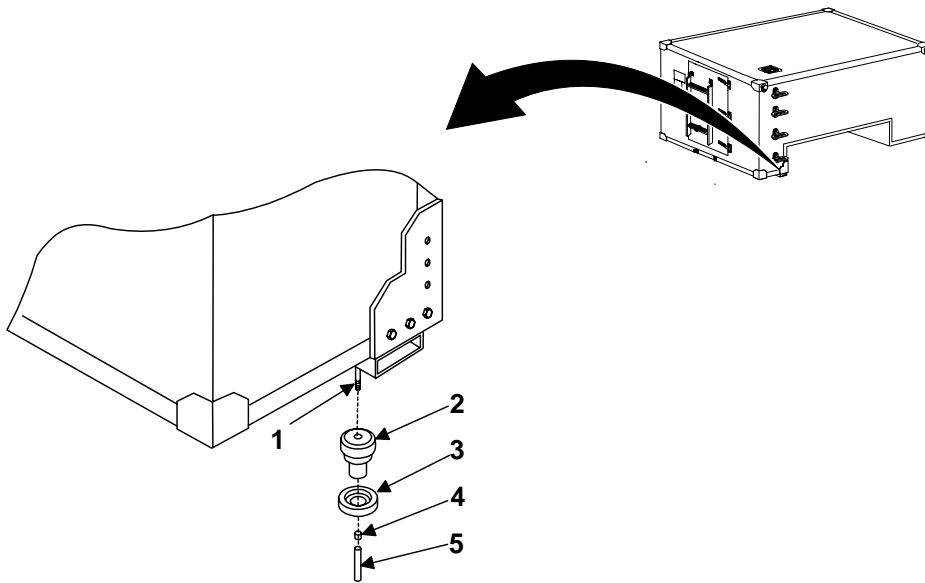

Figure 5. Rear Shelter Mount Installation.
Steps 9 and 10 will refer to Figure 5. Rear Shelter Mount Installation.
9. On each isolator mounting screw (figure 5, item 1), slide on isolator (male portion) (figure 5, item 2), isolator mount washer (figure 5, item 3), spacer (figure 5, item 4), and sleeve spacer (figure 5, item 5) and secure with tape so that the hardware does not fall off when the shelter is lifted onto the HMMWV.